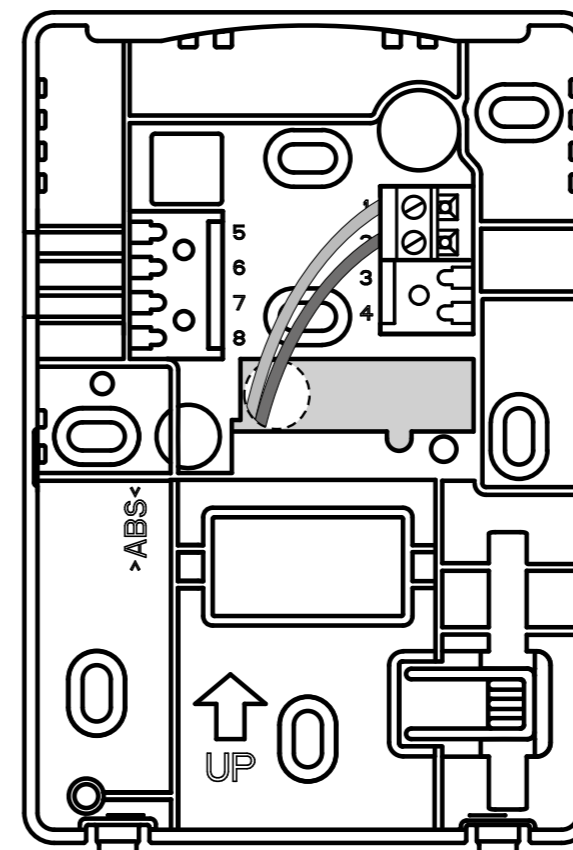

Fig. 6. Terminal connections.
Attach the wires from the programmable controller and network to the appropriate wall module terminals, as indicated in Fig. 6 on page 3.
Wire the terminal block shown in Fig. 6 as follows:
3. Review and verify the terminal connection wiring illustrated in Fig. 6.